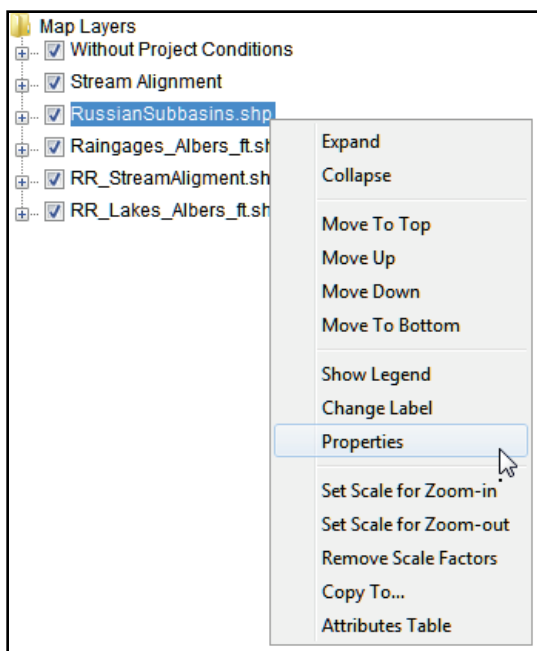

Figure 7.9 Map Layers Tree - Shortcut Menu
- From the **Map Layers** tree (Figure 7.9), right click on a map layer, which happens to be a shapefile. The shortcut menu that appears is for shapefiles. This shortcut menu allows the user to expand/collapse the selected map layer; move the shapefile to different
2. From the shapefile shortcut menu (Figure 7.9), click **Properties**, the **Edit Polygon Properties** dialog box will open (Figure 7.10). The selected shapefile is a polygon shapefile. To edit the fill of the active map layer, from the **Fill** tab, change the color or turn off the fill. For the example in Figure 7.10, the fill will be turned off. Click **Display Fill**, the check mark will clear, meaning that fill is turned off.
1. From the **Map Layers** tree (Figure 7.9), right-click on *StreamAlignment*. From the shortcut menu, click **Import**. The **Import Stream Alignment** dialog box will open (Figure 7.12). The **Shapefile Name** list defaults to the first line shapefile it can find in the *maps* directory of a study; if that is not the correct shapefile, the user can choose the correct shapefile from the **Shapefile Name** list (Figure 7.12).